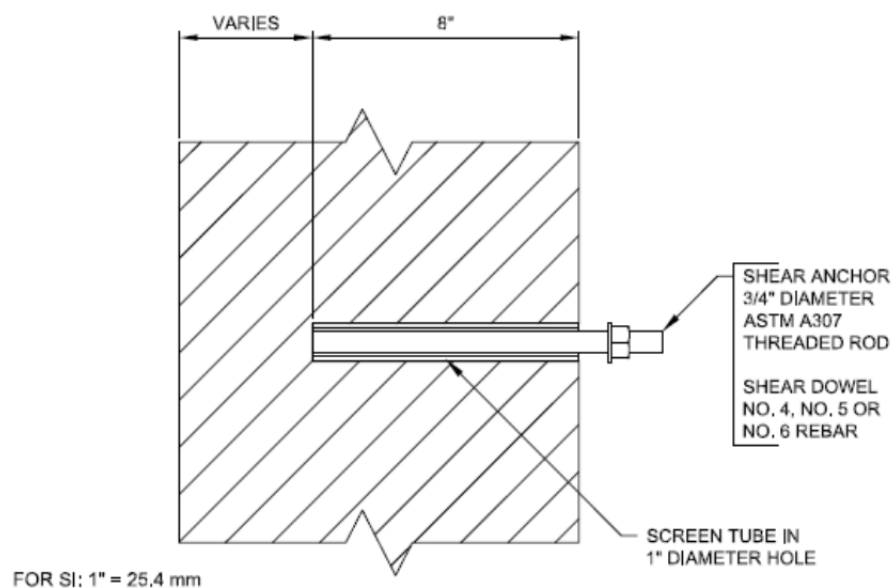

FIGURE 1—HILTI HIT-HY 270 ADHESIVE SHEAR ANCHOR OR DOWEL (CONFIGURATON A)
4.1.1 Configuration A, Threaded Rods or Steel Reinforcing Bars in Shear (Shear Anchor or Rebar Dowel): Configuration A is the anchor assembly resisting shear loads only. Configuration A consists of a ³/₄-inch-diameter (19.1 mm), ASTM A307 threaded rod or a No. 4, No. 5 or No. 6 reinforcing bar and a 1-inch-diameter-by-8-inch-long (26 mm by 200 mm) plastic-mesh screen tube (HIT-SC 26x200). Figure 1 shows details of an installed shear-resisting assembly.
4.3.2 Configuration A: Holes for threaded rods or reinforcing bars intended to resist shear only must be drilled perpendicular to the wall to a minimum embedment depth of 8 inches (203 mm). The holes must be cleaned with a wire brush and compressed air to remove debris. The Hilti HIT-HY 270 adhesive must be injected into the supplied plastic mesh screen tube that is then inserted into the predrilled hole. The threaded rod or reinforcing bar must be inserted and pushed into the screen tube in a rotating manner to force the adhesive into the hole. Figure 1 illustrates an anchor installed in this configuration. Figure
CONFIGURATION A – SHEAR ANCHOR OR REBAR DOWEL (FIGURE 1)